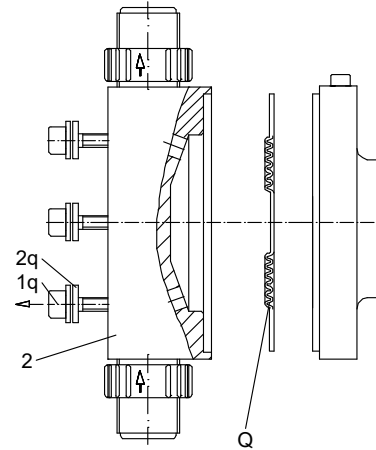

Fig. 39 Replacing a single diaphragm
- Remove the dosing head (2).
- Remove the diaphragm and fit a new diaphragm (Q) on the suction side. See fig. 39.